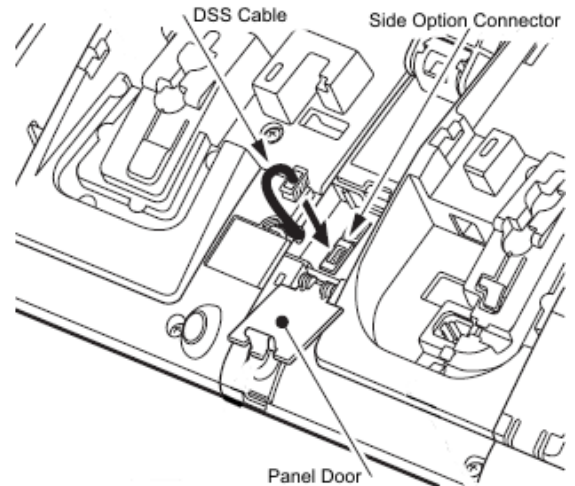

Figure 5-106 Serial Cable Installed
10. Open the small door covering the side option connectors by pulling the cover latch toward you (refer to Figure 5-106 Serial Cable Installed, DT700/DT800 only).